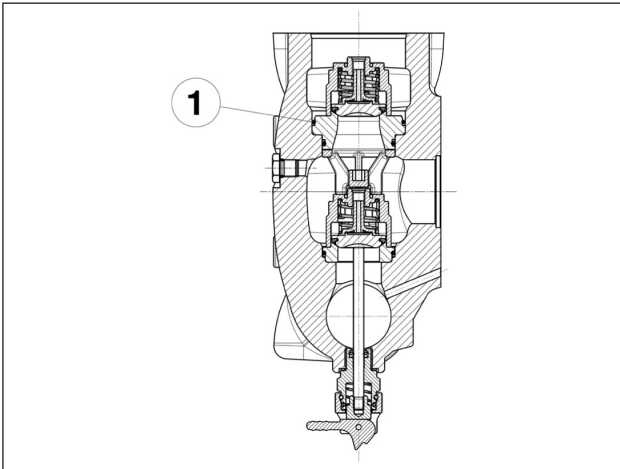

Fig. 128
Pay special attention to fitting the O-ring shown in pos. ①, Fig. 128.